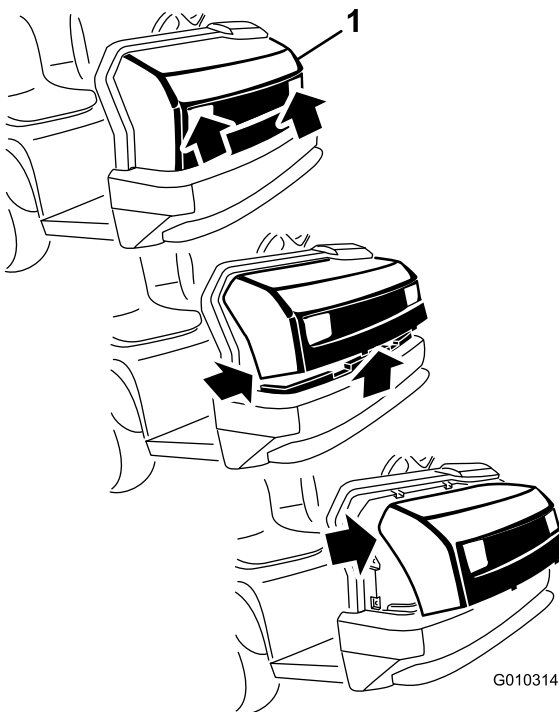

Figure 28
1. While grasping the hood in the headlight openings, lift up on the hood to release the lower mounting tabs from the frame slots (Figure 28).
2. Pivot the bottom of the hood upward until the top mounting tabs can be pulled from the frame slots (Figure 28).
3. Pivot the top of the hood forward, and unplug the wire connectors from the head lights (Figure 28).